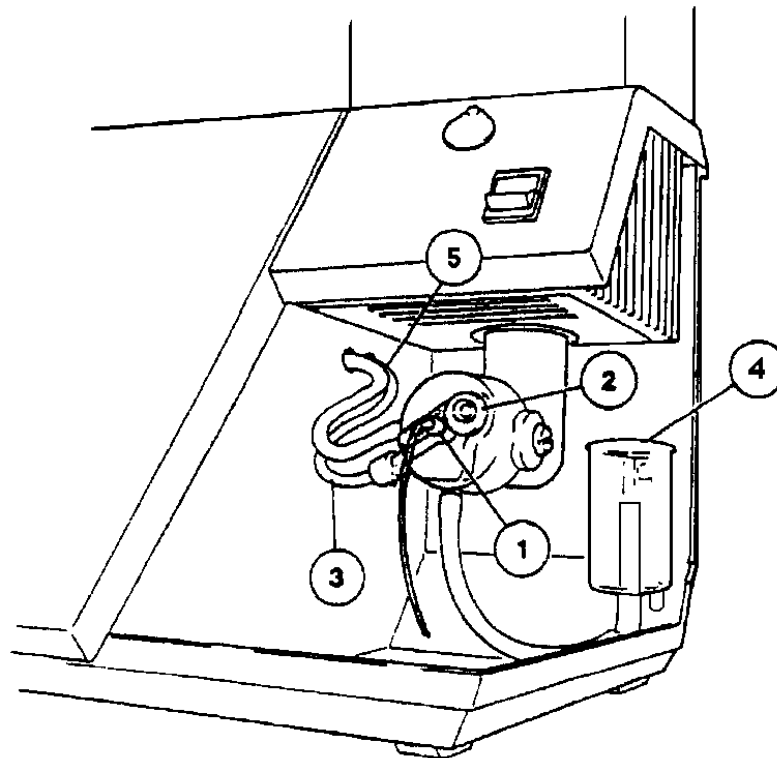

Figure 2.1 Mixing Chamber
3. Remove the nebuliser from its box and push the nebuliser barb into the air tubing (item 3, Figure 2.1). Fit the nebuliser to the mixing chamber and position the retainer to lock it into position (item 2, Figure 2.1). Fit the nebuliser inlet tube, making sure that it is pointing downwards.